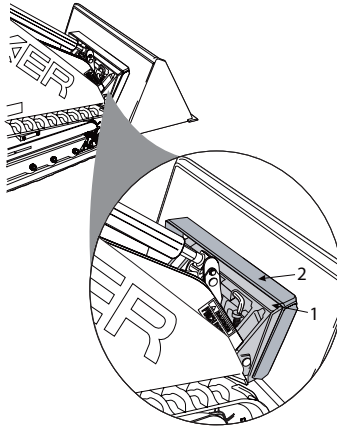
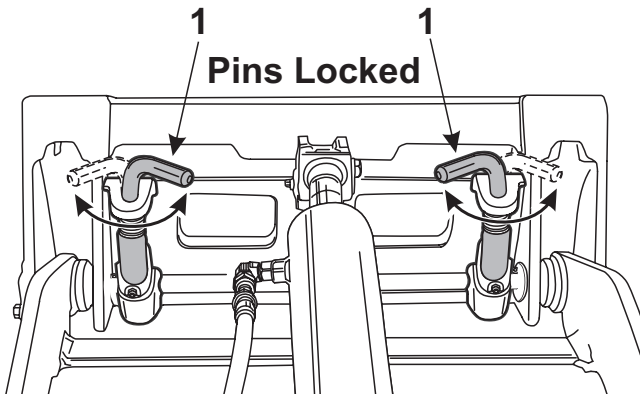

Figure 3-28 Attachment Installed
Figure 3-29 Attachment Locks in Locked Position
- When the top of the attachment mounting plate (Item 1, **Figure 3-28**) is firmly seated in the attachment mounting bracket (Item 2, **Figure 3-28**), tilt the attachment mounting plate backward slightly to allow the lower edge of the attachment mounting bracket to slide into place on the attachment mounting plate.
- Rotate the attachment lock pins (Item 1, **Figure 3-28** and Item 1, **Figure 3-29**) into the locked position, securing the attachment to the machine.